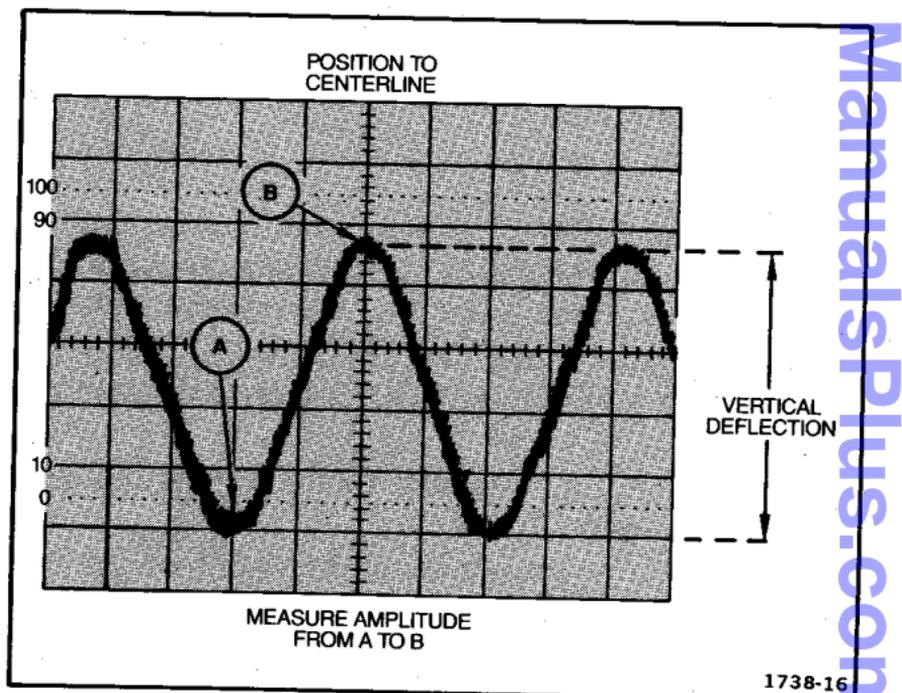

Figure 3-1. Measuring peak-to-peak voltage of a waveform.
- Vertically position the display so that the negative peak of the waveform coincides with one of the horizontal graticule lines (see Figure 3-1, Point A).
- Horizontally position the display so that one of the positive peaks coincides with the center vertical graticule line (Figure 3-1, Point B).
- Measure the divisions of vertical deflection from peak to peak (Figure 3-1, Point A to Point B).
**EXAMPLE.** In Figure 3-1, the measured peak-to-peak vertical deflection is 4.6 divisions using a 10X attenuator probe with the VOLTS/DIV switch set to 5 V (10X PROBE).